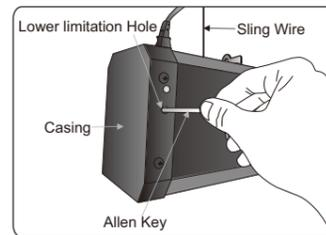

Figure 25
- Lower limitation adjusting. Take off the knob from the hole and use the provided allen key to adjust (figure 25). A clockwise adjustment will extend the screen (The distance between the screen and installation position will increase) and a counter-clockwise adjustment will retract the screen (The distance between the screen and installation position will decrease).